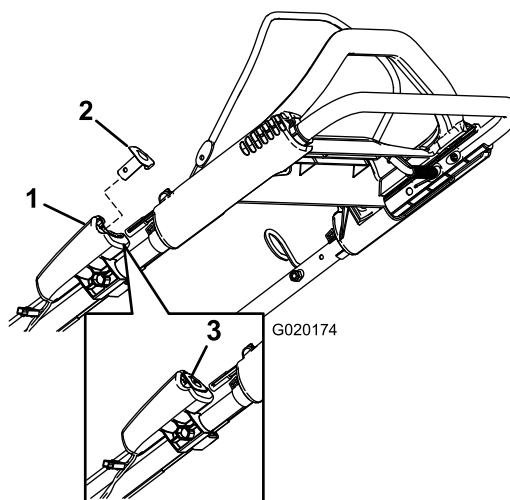

Figure 16
2. Push the electric-start button until the engine starts (Figure 16).
Note: If the electric-start button has been removed, insert it in the electric starter; refer to Figure 16.